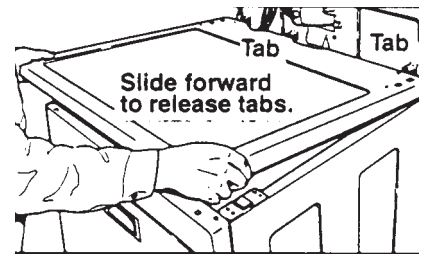

Fig. 4-12
3. Slide top toward you to release top from front clips and rear tabs. (Fig. 4-12)